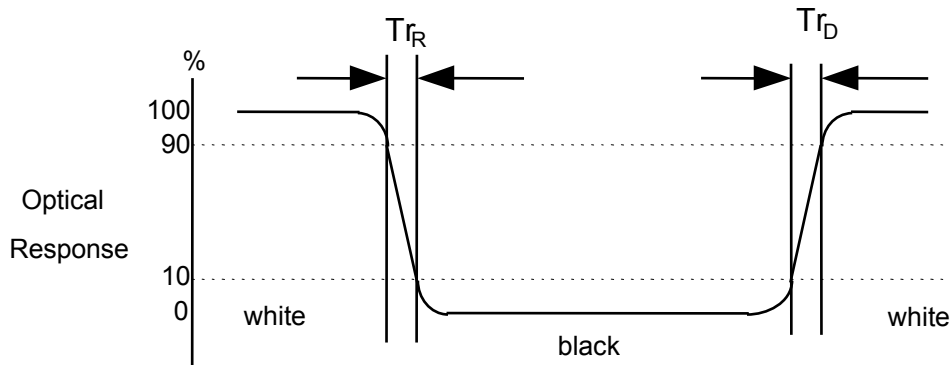

FIG. 4 Viewing angle
| Viewing angle | Horizontal | θ | ϕ x(Left,Right) | ± 65 | ± 70 | - | ° | Fig 4 |
3. Viewing angle is the angle at which the contrast ratio is greater than 10. The angles are determined for the horizontal or x axis and the vertical or y axis with respect to the z axis which is normal to the LCD surface. For more information see FIG 4.